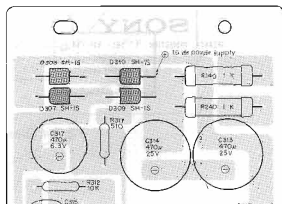

Fig. 3-2. Connection point of dc power supply.
- Connect the dc variable power supply's output to the diodes mounted on the speaker protection board. Connect the positive output of the power supply to the connection point of D310 and D309 and the negative output to the ground as shown in Fig. 3-2.